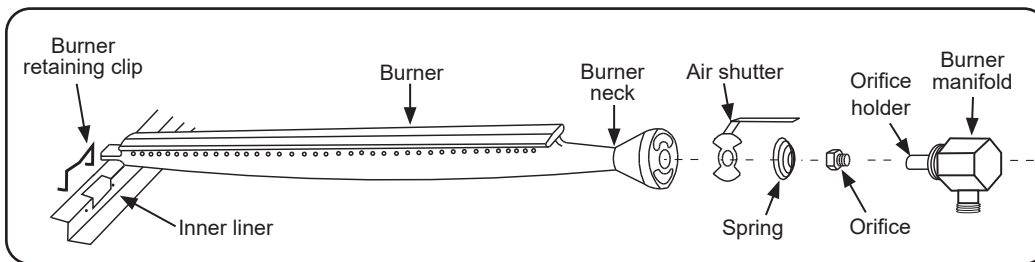

Fig. 38-1 - Burner orifice diagram
6. Install the air shutter spring and the air shutter over the orifice holder fitting in the order and position shown in Fig. 38-1. Carefully place the burner back in position, resting on the back flange of the inner liner so that the brass orifice and orifice holder fittings project well into the burners.